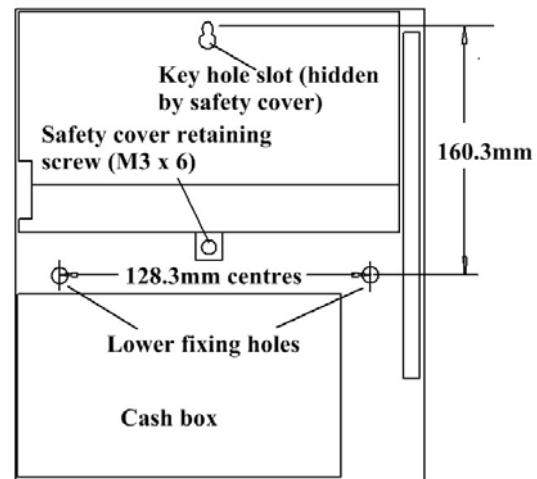

Figure 2 – Removing Circuit Board Cover
1. Lay the timer on its back and open the case using the key supplied. Remove the cash box and using a small flat bladed screwdriver remove the 3mm screw (M3 x 6) holding the safety cover in place, as shown in Figure 2. Once the screw has been removed the cover may be lifted and unhooked from the main case to fully expose the back of the case and the main circuit board.